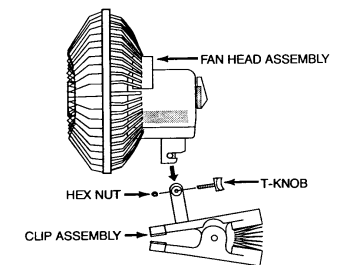

Figure 1
- Remove T-Knob from Fan Head Assembly while being careful to retain the Hex Nut on the opposite side. (Figure 1)